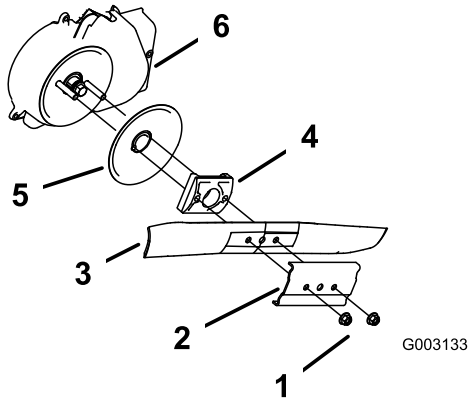

Figure 32
3. Remove the 2 blade nuts and the stiffener (Figure 32).
4. Remove the blade (Figure 32).
5. Remove the blade driver and disk (Figure 32).
6. Remove the blade-brake-clutch shield (Figure 32).
10. Install the blade and the stiffener that you previously removed (Figure 32).